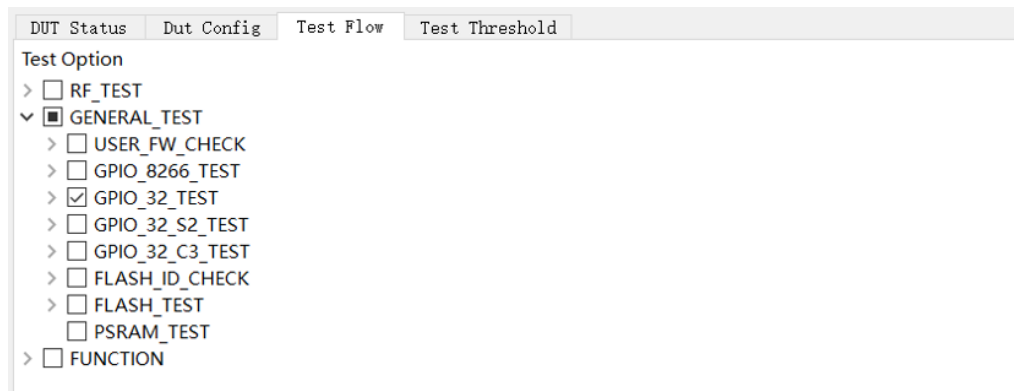

Figure 3-4. GPIO Conductivity Test
- **Configuration Interface:** As shown in Figure 3-4, you can enable this test in the *GENERAL_TEST* sub-list on the *Test Flow* tab. For details, please refer to Appendix B.